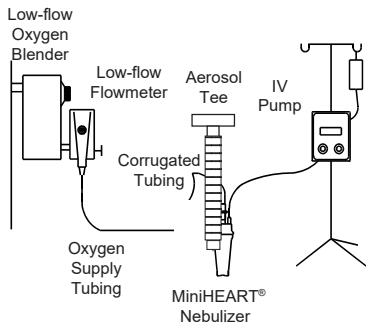

Figure 2
4. Interface with Volume Ventilation (refer to Figure 2).